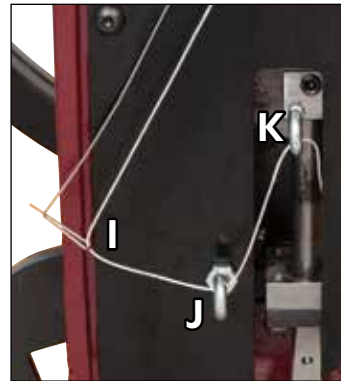

Figure 9
- 5) Run thread through Check Spring **(I)**, the Bottom Thread Guide **(J)** and the Top Thread Guide **(K)** located on the side plate. **(Figure 9)**